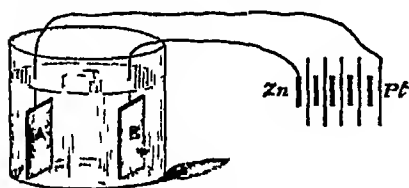

FIG 219
*electrolyte*. The current flows from the zinc to the platinum or copper in the battery, by the wire to A (fig 219) through the liquid, and so on to the zinc. The solid conductor A, from which the current
**Electrolysis of metallic salts in solution—Sulphate of copper** Dip two platinum electrodes, A B (fig 219), of a battery into a solution of copper sulphate. The negative electrode is soon covered with red copper, while a gas, found to be oxygen, rises from the positive electrode.